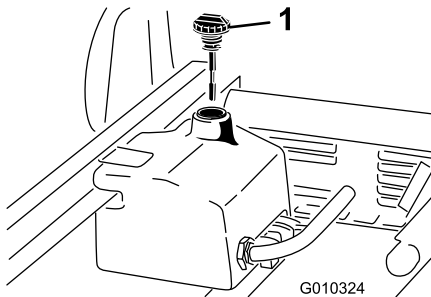

Figure 17
- Clean the area around the filler neck and the cap of the hydraulic tank (Figure 17). Remove the cap from the filler neck.
- Remove the dipstick (Figure 17) from the filler neck and wipe it with a clean rag. Insert the dipstick into the filler neck; then remove it and check the fluid level. The fluid level should be between the two marks on the dipstick.